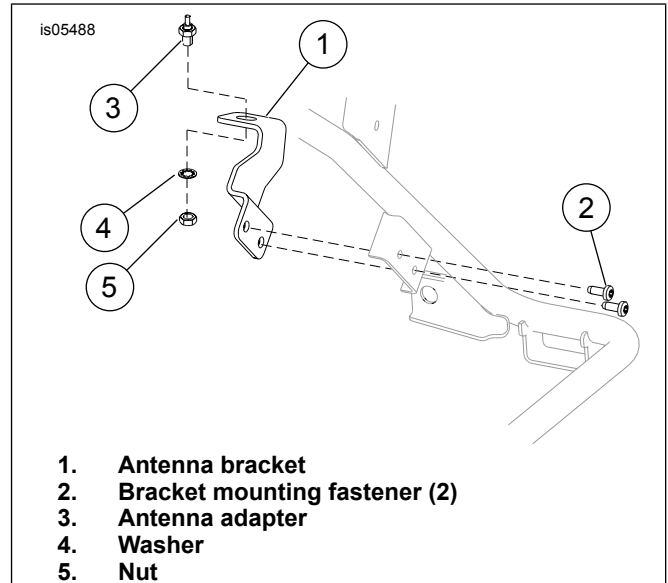
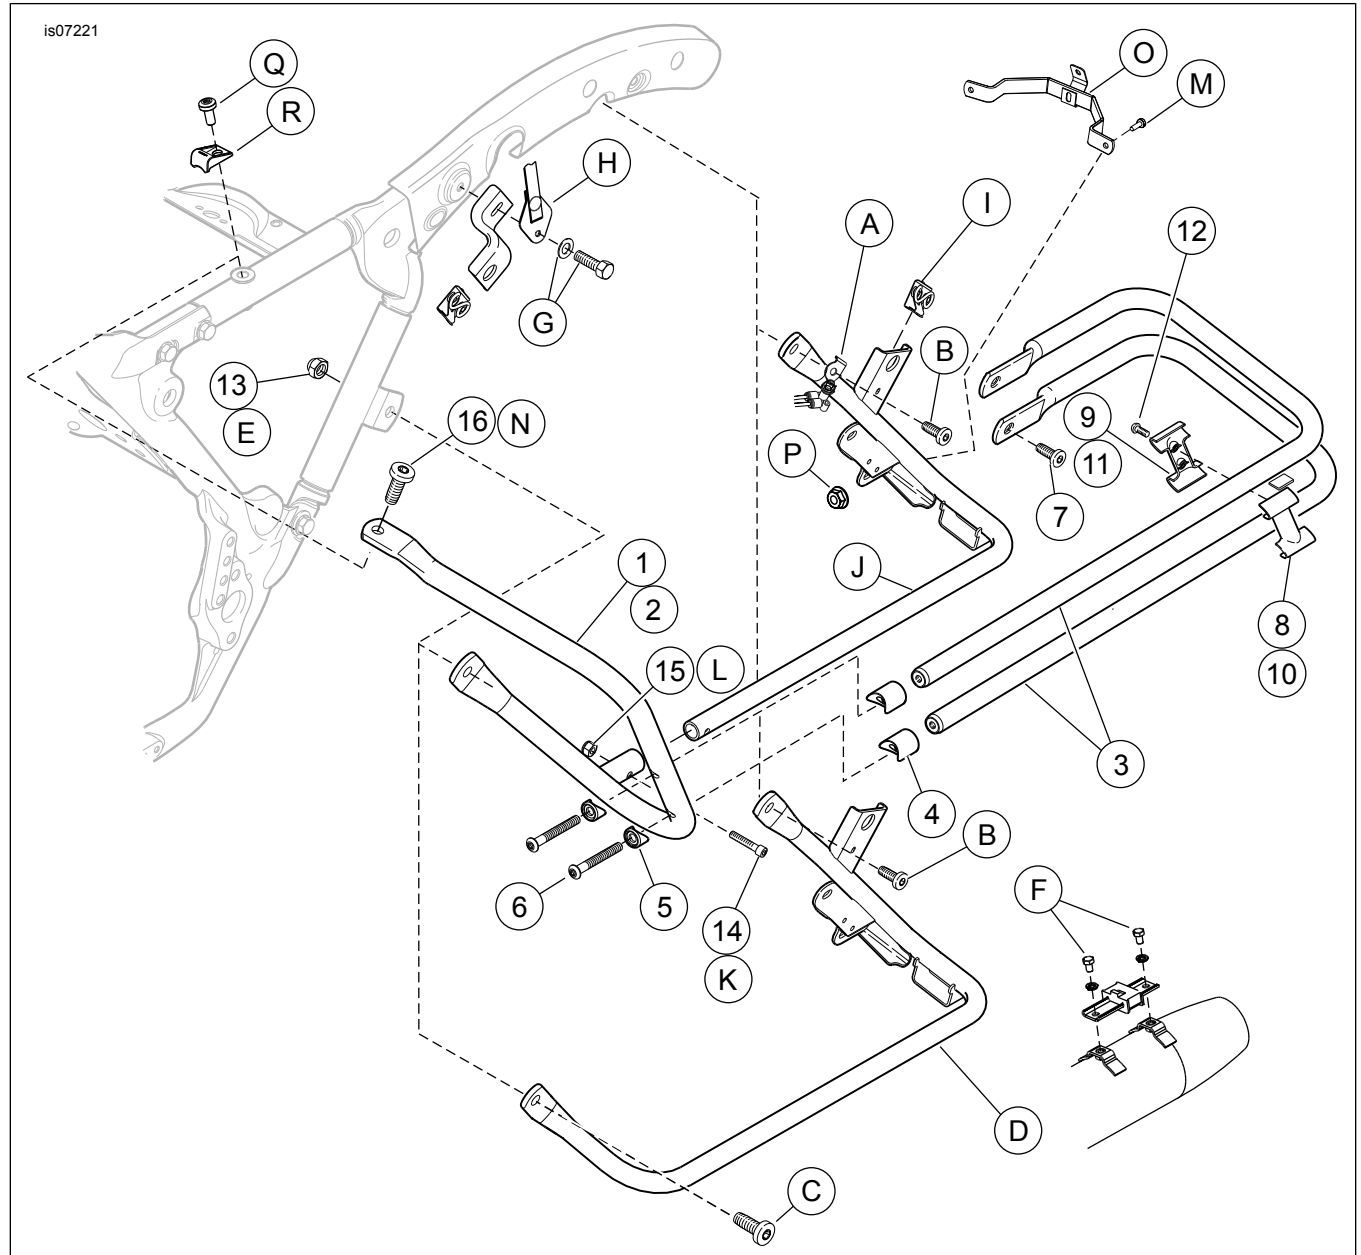

Figure 1. Remove Antenna and Bracket
Figure 3. Service Parts: Saddlebag Guard Kit (Left Side Shown)
See Figure 3 and Table 1.
2. See Figure 3. Remove grab strap screw and washer (G). Remove grab strap (H). Remove seat following the instructions in the service manual.
3. If equipped, remove seat bumper (R) and screw (Q).
5. **For FLTR Models:** See Figure 3. **For All Other Models:** See Figure 3.
- a. Support muffler assembly with a block of wood or other suitable method. Remove the screws (F) securing saddlebag guards to muffler supports.
- b. Remove screws (B and C) and nut (E). Save screws (B and C) for installation. Discard nut (E).
- c. Remove bolt (M) and nut (P). Save bolt (M) for installation. Discard nut (P).
- d. Remove support (D) and discard. Repeat for other side.
- e. Remove stud receptacle (I) and save for installation.
- f. See Figure 1. Remove antenna bracket (1), mounting fasteners (2), antenna mounting nut (5), washer (4) and antenna adapter (3). Save the antenna and hardware, discard the bracket.
- b. Remove upper and lower bolts (N and C) and nut (E) securing left and right forward saddlebag guards to frame. Discard saddlebag guards, but save hardware.
- c. Remove screw (K) and nut (L). Save for installation.
1. **For FLTR Models:** See Figure 3. **For All Other Models:** See Figure 3.
- a. Install left saddlebag support (J) (purchased separately) into left forward guard (1).
- b. Install the rear saddlebag support mounting screw (B) through the air suspension bracket (A) and saddlebag support (J). Install screw finger-tight.
- c. Install bolt (M) and nut (P) (purchased separately). Tighten finger-tight.